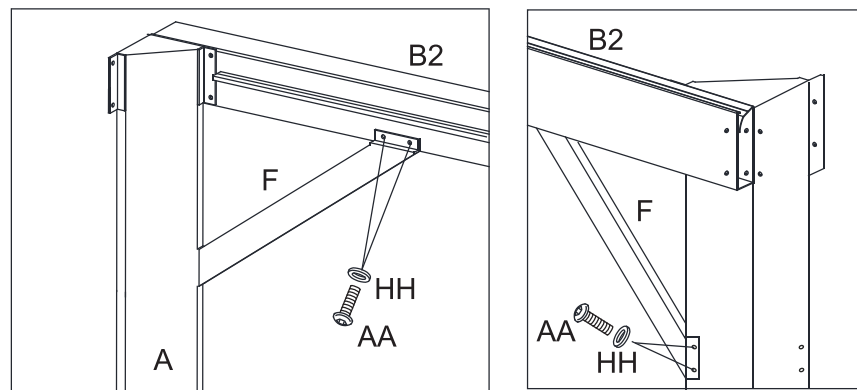

Figure 4.3
4.3. Attach Support Bars (F) to Corner Post (A) and to Lintels (B1/B2/B3) with Bolts (AA) and washer (HH). See Figure 4.3.